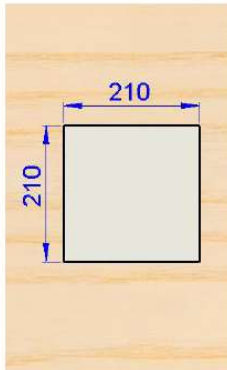
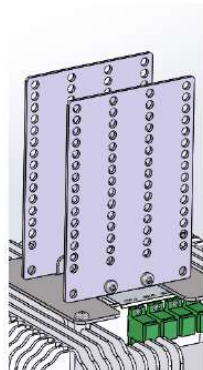
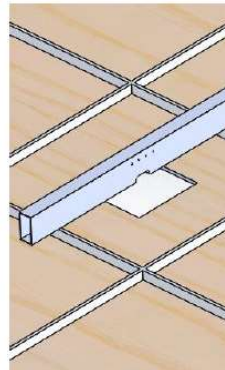
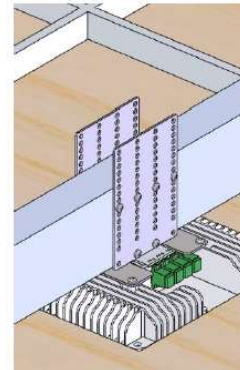

Figure 3-26
Figure 3-27
Figure 3-28
Figure 3-29
Step 1. Select an area for installation near ceiling. Drill the square holes per (Figure 3-26). Use the Screw(M4X12) to cross the pore plate and IRU-O module (Figure 3-27). Use metal wire mount the beam onto the ceiling keel (Figure 3-28). Use the Screw(M4X12) to tighten the pore plate and beam (Figure 3-29)